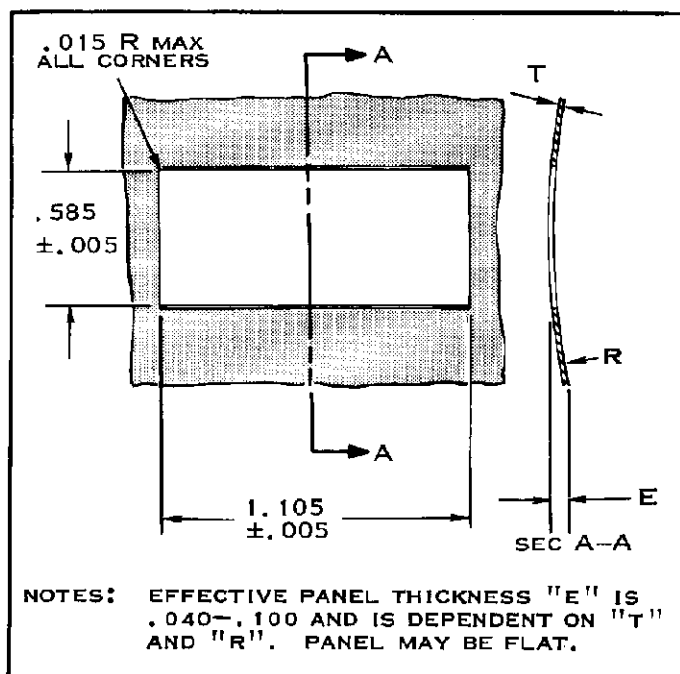
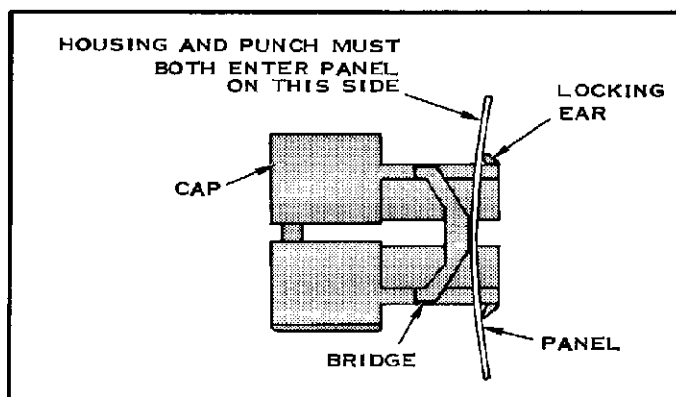

FIG. 4
FIG. 5
- (a) To mount the Cap to the Panel or Motor, first stamp the cutout using the dimensions in Figure 4. Be sure the Punch and Housing enter the Panel from the same side. See Figure 5.
- (b) Install the Cap in the Panel as shown in Figure 5, using a rocking motion. Slide one Locking Ear under the Panel, then rock the Housing to the other side and slide the other Locking Ear under the Panel.